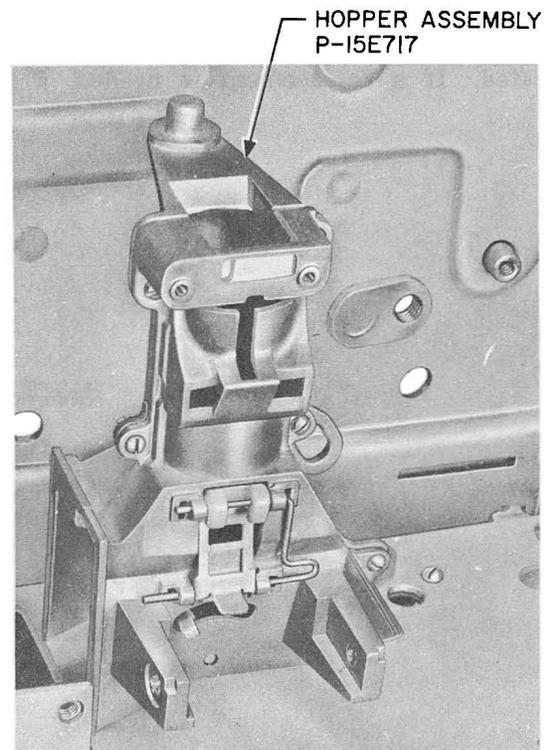
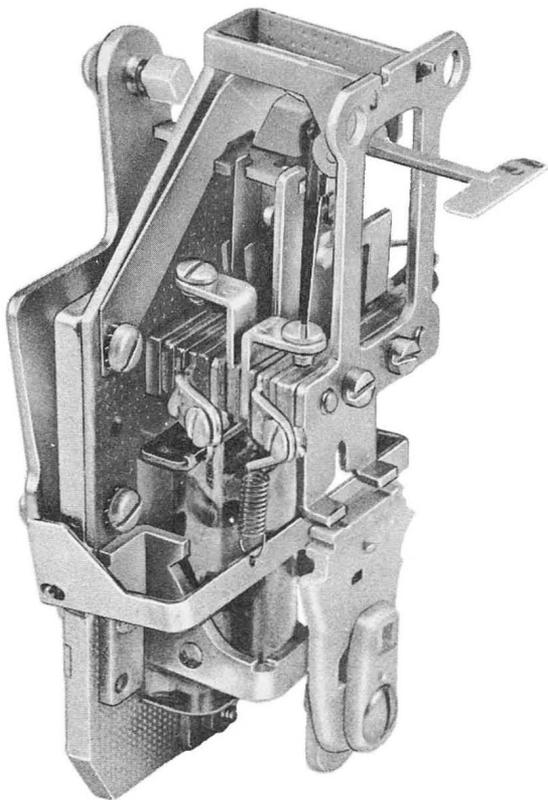

Fig. 9 - Hopper Assembly
Fig. 10 - Coin Relay
3.07 The hopper assembly is shown in Fig. 9. The coin relay (Fig. 10) mounts with four screws as in previous telephone sets.